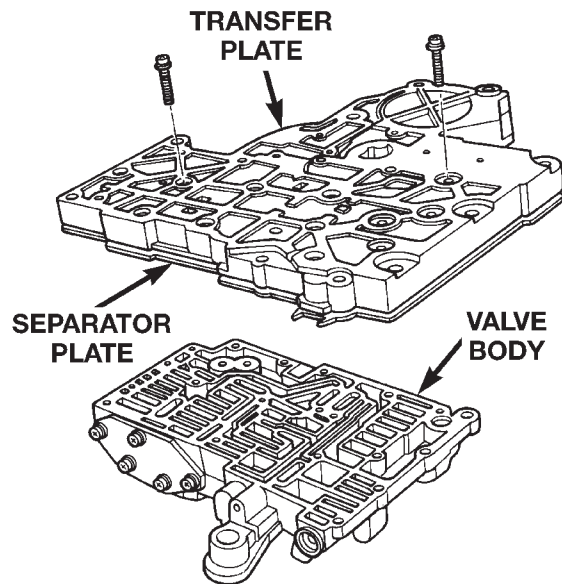

Fig. 48 Valve Body Transfer Plate Screws
(15) Turn valve body over so transfer plate is facing upward (Fig. 48). With valve body in this position, valve body check balls will remain in place and not fall out when transfer plate is removed.
(16) Remove screws attaching transfer plate to valve body (Fig. 48).
(17) Remove transfer plate and separator plate from valve body (Fig. 48). Note position of filter and clutch solenoid for reference. Remove valve body check balls.
(18) Position transfer plate on bench so separator plate, and filter are facing up. This will avoid having rear clutch and rear servo check balls fall out when plates are separated.